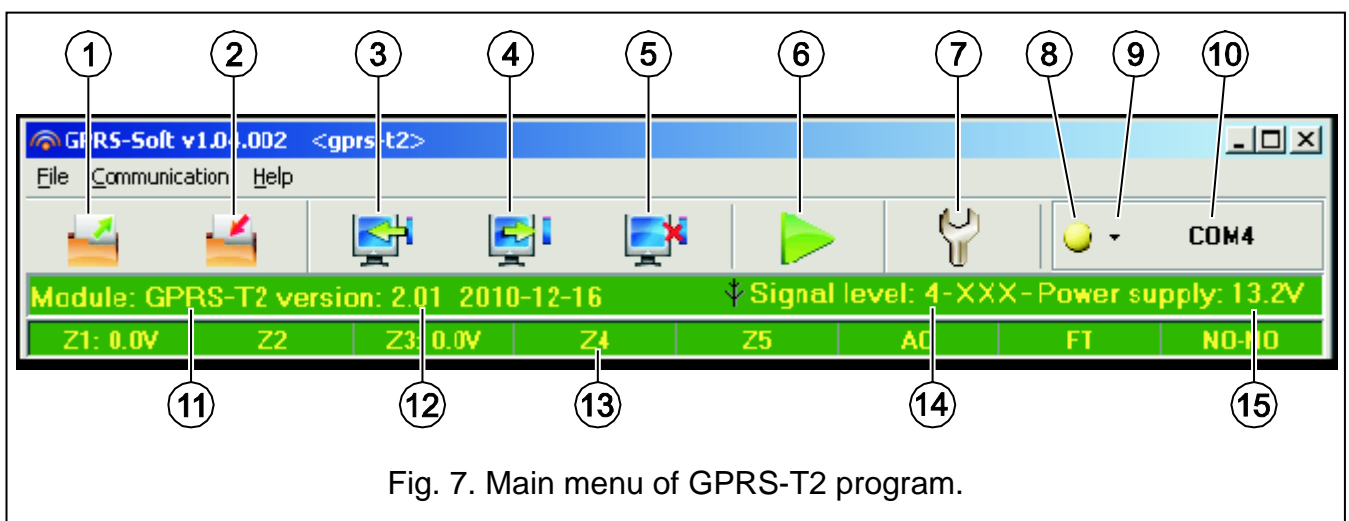

Fig. 7. Main menu of GPRS-T2 program.
The serial COM port of the computer must be connected with the RS-232 (TTL) port on the module electronics board. The cables for making this connection are available as a set designated DB9FC/RJ-KPL. Indicate in the GPRS-SOFT program the computer COM port to be used for communication with the module. To do so, click on the "Configuration" button (see: Fig. 7 and explanations for the figure) and, in the window that will open, select one of the available computer COM ports. After activation of the selected COM port, the program will establish communication with the module.
2. Click on the "Configuration" button (see: Fig. 7 and explanations for the figure) and, in the window that will open, enter the number of TCP port selected for communication with the module. The number will have to be included in the body of SMS message which will be sent to the module GSM telephone number to initialize communication.
3. Click on the  button (see Fig. 7). In the menu that will open, select "TCP/IP" to activate the server.
Explanations for Figure 7: